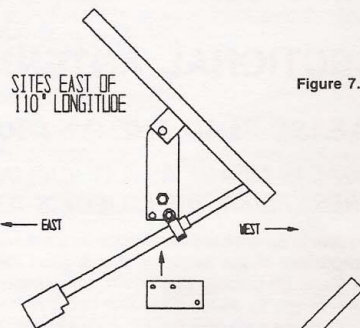

Figure 7.
STEP 7 Installation of the #7 actuator bar is recommended on Antennas for areas within 10° East or West of the 110° longitude line to give the actuator a better mechanical advantage. Installation of the #7 actuator bar outside this area is not required for proper system operation. The proper actuator bar positioning must be obtained so that the antenna will track the entire arc of satellites. To find that position, you must first locate your latitude and longitude on a map. Refer to Chart 1. Add the actuator bar as per Figure 7 or 8, which shows the proper alignment for your location. Secure the actuator bar with (2) 1/2"x1 1/2" bolts and locknuts. Now you may install your actuator or hand crank. **TIGHTEN ALL BOLTS WITH A WRENCH.** The #7 actuator bar is not supplied with the 6 or 7 Plus. Attach the actuator directly to the correct side of the elevation U-bracket as shown.